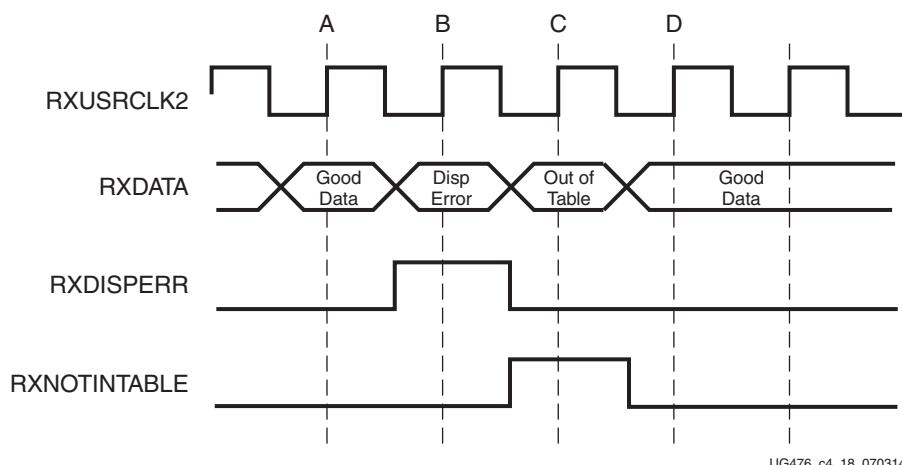

Figure 4-39: RX Data with 8B/10B Errors
Figure 4-39 shows a waveform at the RX data interface when the decoder receives good data (A), data with disparity error (B), an out-of-table character (C), and good data (D).